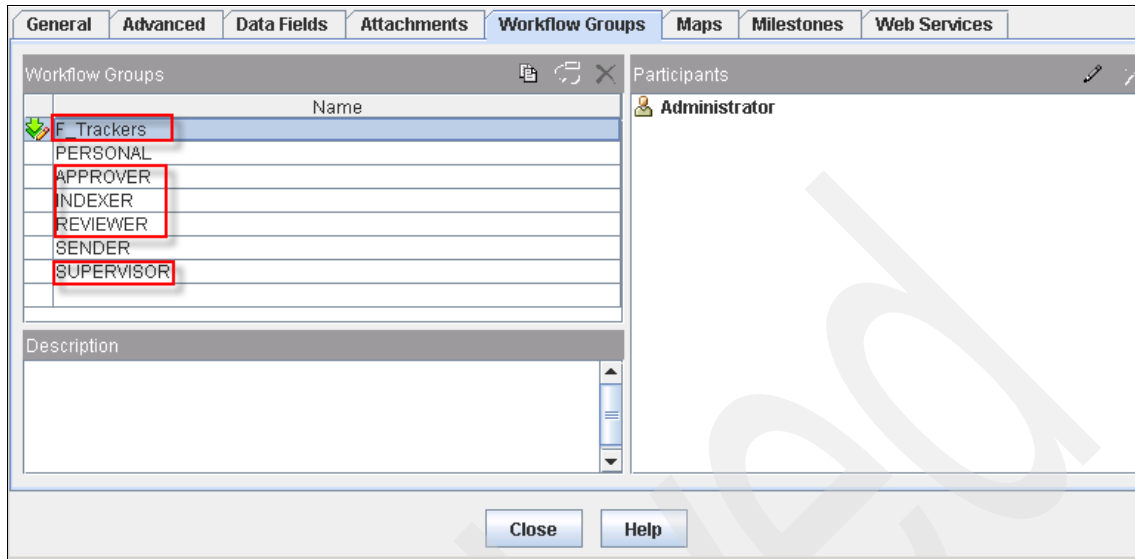

Figure 7-45 Workflow Groups
- b. To see the roles of the Contract Management Workflow, click the **Workflow Groups** tab (Figure 7-45 on page 398). Table 7-10 describes the roles involved in this process flow.